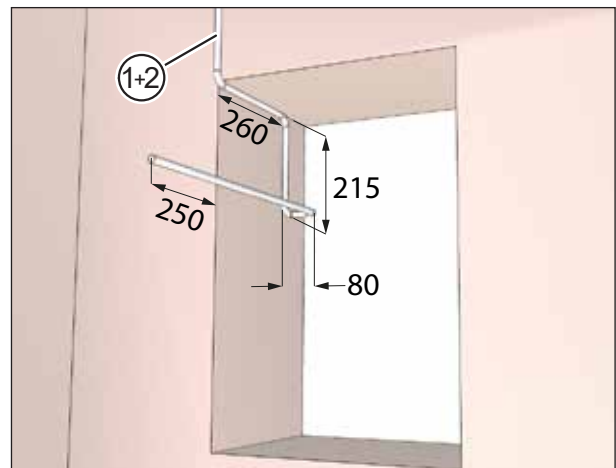

Fig. 17: Running the connecting cables, dimensions in millimetres
- ▶ Run the mains cable (item 1 in Fig. 17) and the control cable, if required (item 2 in Fig. 17). The cables should extend roughly 250 mm beyond the wall.